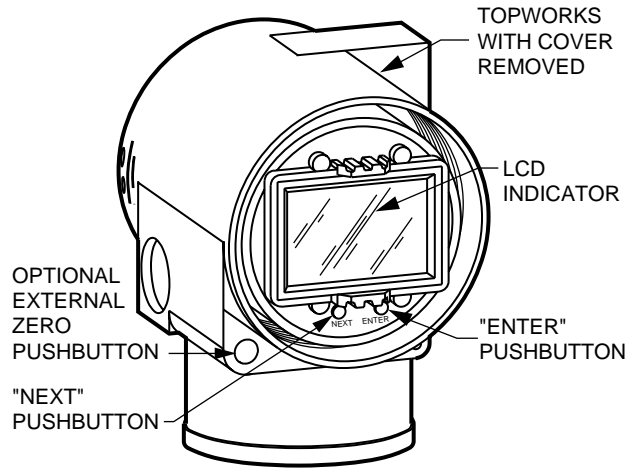

Figure 3. LCD Indicator with Pushbuttons
**Liquid Crystal Display (LCD) Indicator with On-Board Pushbuttons (Figure 3) Provides:**
**Optional External Zero Adjustment (Figure 3)**